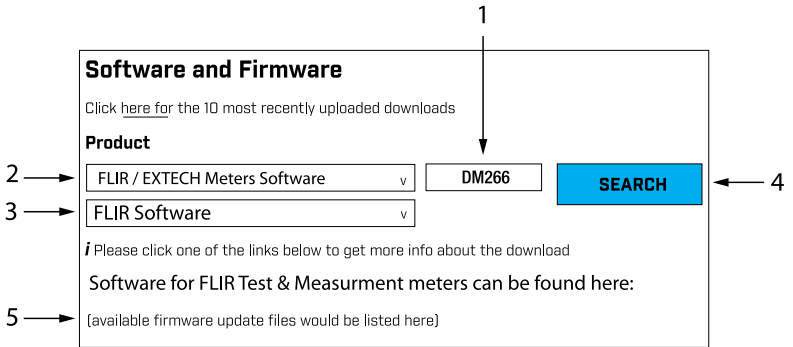

Figure 16.3 The Software and Firmware page on the support site.
5. For Figure 16.3, below, 1. Type **DM266** in the search field; 2. Select **FLIR / Extech Meters Software** from the pull-down menu; 3. Select **FLIR Software** from the pull-down menu; 4. Click **SEARCH**; 5. Click the upgrade file to download it to your PC.